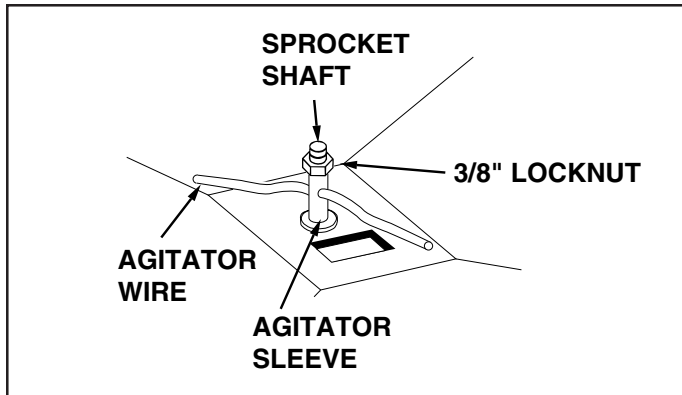

FIGURE 17
4. If agitator wire becomes damaged or worn it can be replaced. Loosen 3/8" lock nut on the top of sprocket shaft until agitator wire is free. Remove old agitator wire from hole in agitator sleeve and replace with new agitator wire. Position agitator wire so that sprocket shaft turns freely and tighten 3/8" lock nut on top of sprocket shaft. See figure 17.